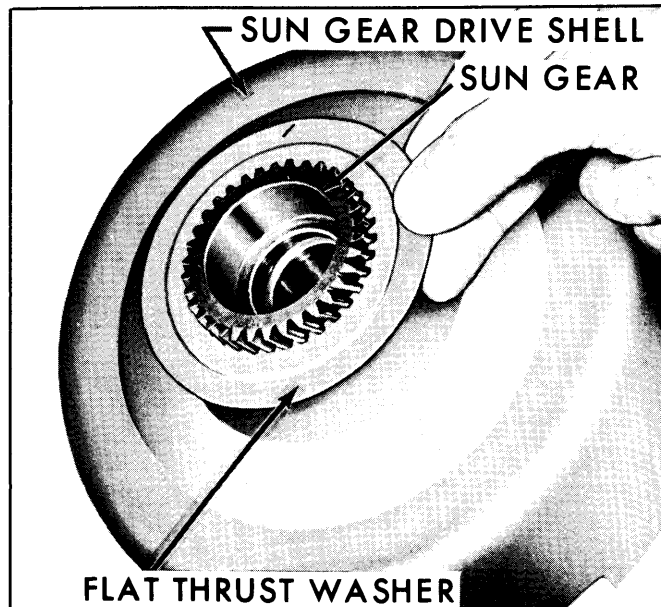

Fig. 7-89—Removing Sun Gear to Drive Shell Rear Steel Thrust Washer
2. Remove sun gear to drive shell flat rear steel thrust washer. (Fig. 7-89)